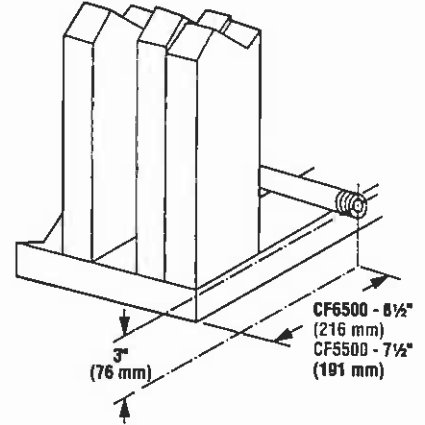

Figure 10
Step 2. Route a 1/2" (13 mm) gas line along the left or right side framing (see Figure 10).